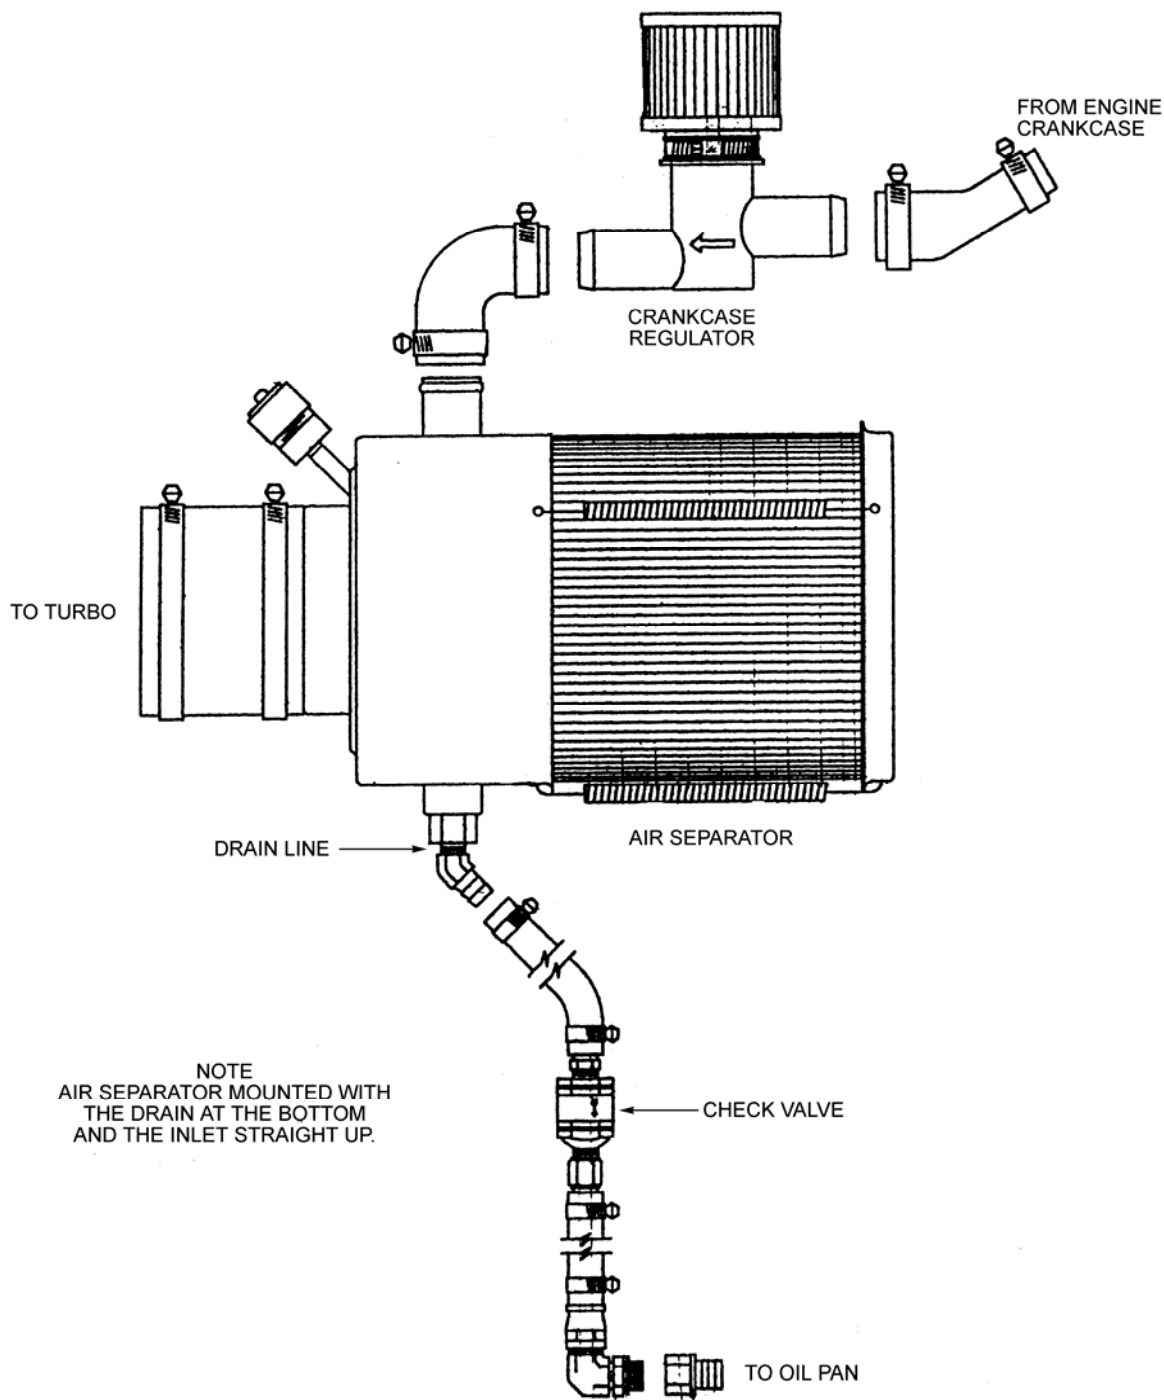

Figure 3-11
- D.7. General** The crankcase ventilation system (**figure 3-11**) routes the fumes produced by the engine oil system back through the engine air intake system.